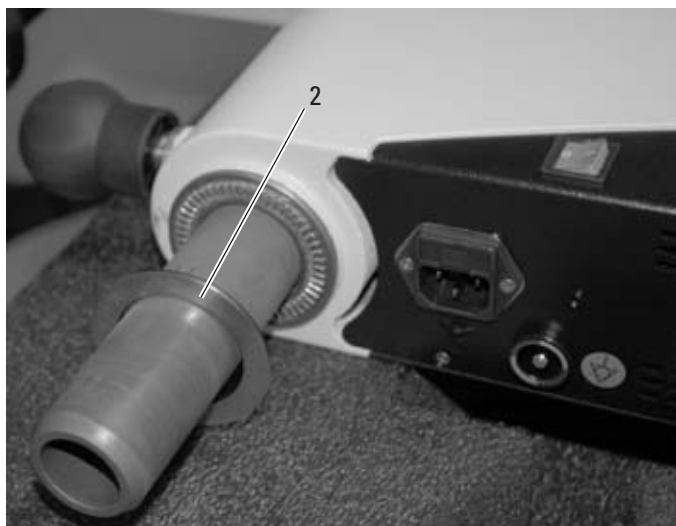

Fig. 2
- ⇒ Remove the disk (2) of the needle roller bearing from the pin of the swing arm (Fig. 2).